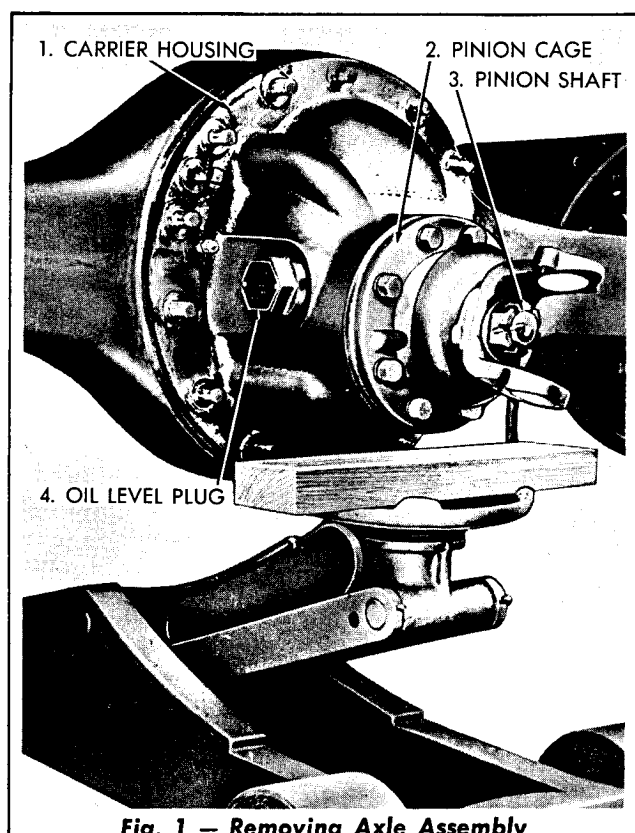

Fig. 1 – Removing Axle Assembly
3. Properly position a portable hydraulic floor jack (approximately five-ton capacity) at center of the axle housing or directly underneath the differential (Fig. 1), and carefully